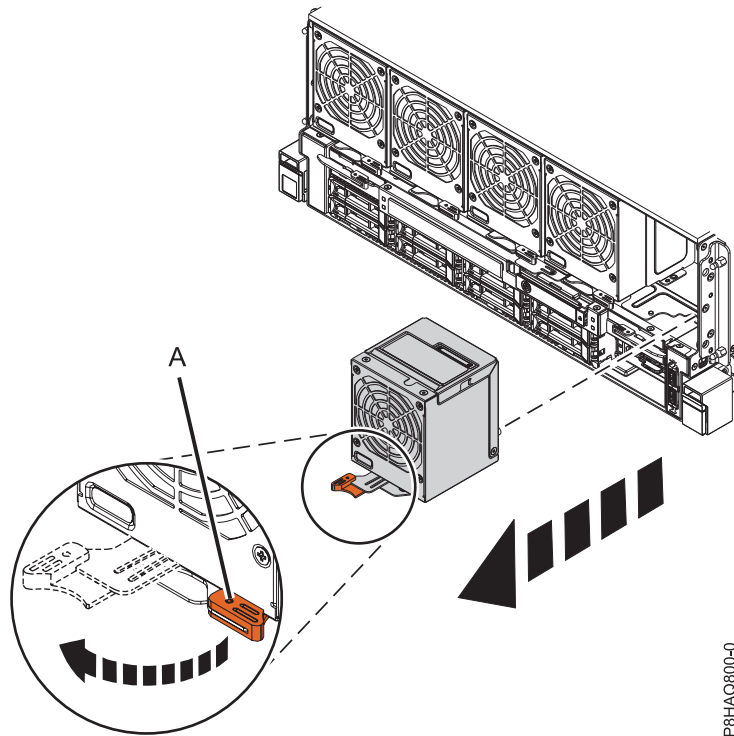

Figure 2. Removing a front fan from the system
- a. Put your thumb against the front of the terracotta touch point latch, (A) in Figure 2 on page 4, and put your index finger against the back of the latch.
- c. Rotate the fan handle in the direction shown in Figure 2 on page 4 to unlock the fan from its slot.
- d. Hold on to the fan handle and by using your hand to support the bottom of the fan, pull out the fan from its slot as shown in Figure 2 on page 4.